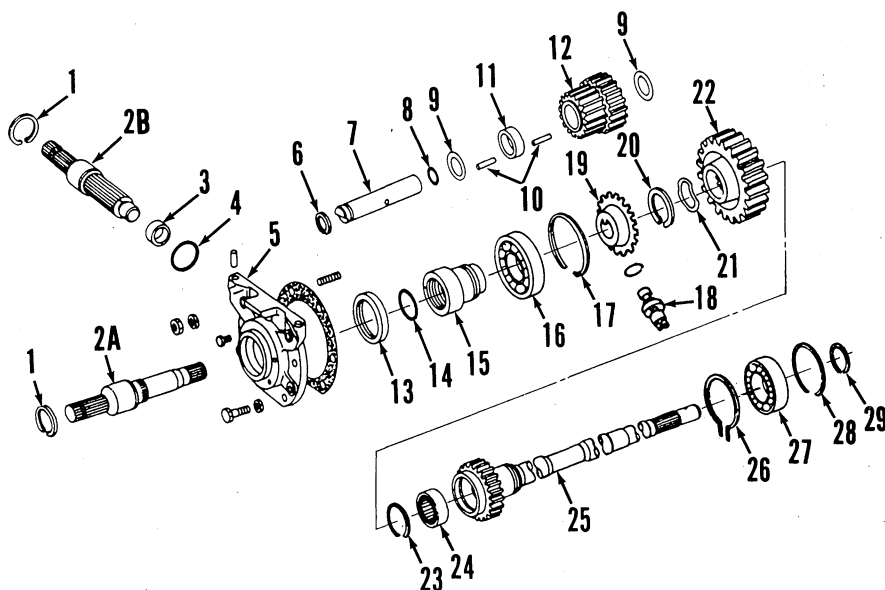

Fig. 212—Exploded view of pto reduction gears, output shafts and related parts used on all Power Shift tractors equipped with dual-speed pto.
A dual-speed (540 and 1000 rpm) pto is available on 4050, 4250 and 4450 models. The 1000 rpm output shaft (2A—Fig. 212) splines directly into the pto drive shaft (25). When 540 rpm is desired the 540 rpm output shaft (2B) is installed in place of the 1000 rpm shaft. The 540 rpm shaft splines into the 540 rpm gear (22) which is driven by the countershaft gear (12) to provide necessary speed reduction.
197. OUTPUT SHAFT. To overhaul pto drive train at rear of tractor, first drain transmission oil. Unbolt and remove rear bearing retainer (5—Fig. 212) with stub shaft and 540 rpm gear (22). Be careful not to lose the spring washer (21). Squeeze large snap ring (26), then pull pto drive shaft (25) from transmission
Remove snap ring (29—Fig. 212) and use a suitable puller to remove drive shaft bearing (27) if necessary. Remove snap ring (1) and withdraw output shaft from bearing retainer (5). Remove speed sensor pickup disc (19) if so equipped. Remove snap ring (17), then press guide (15) and bearing (16) from retainer. Drive oil seal (13) out of retainer.